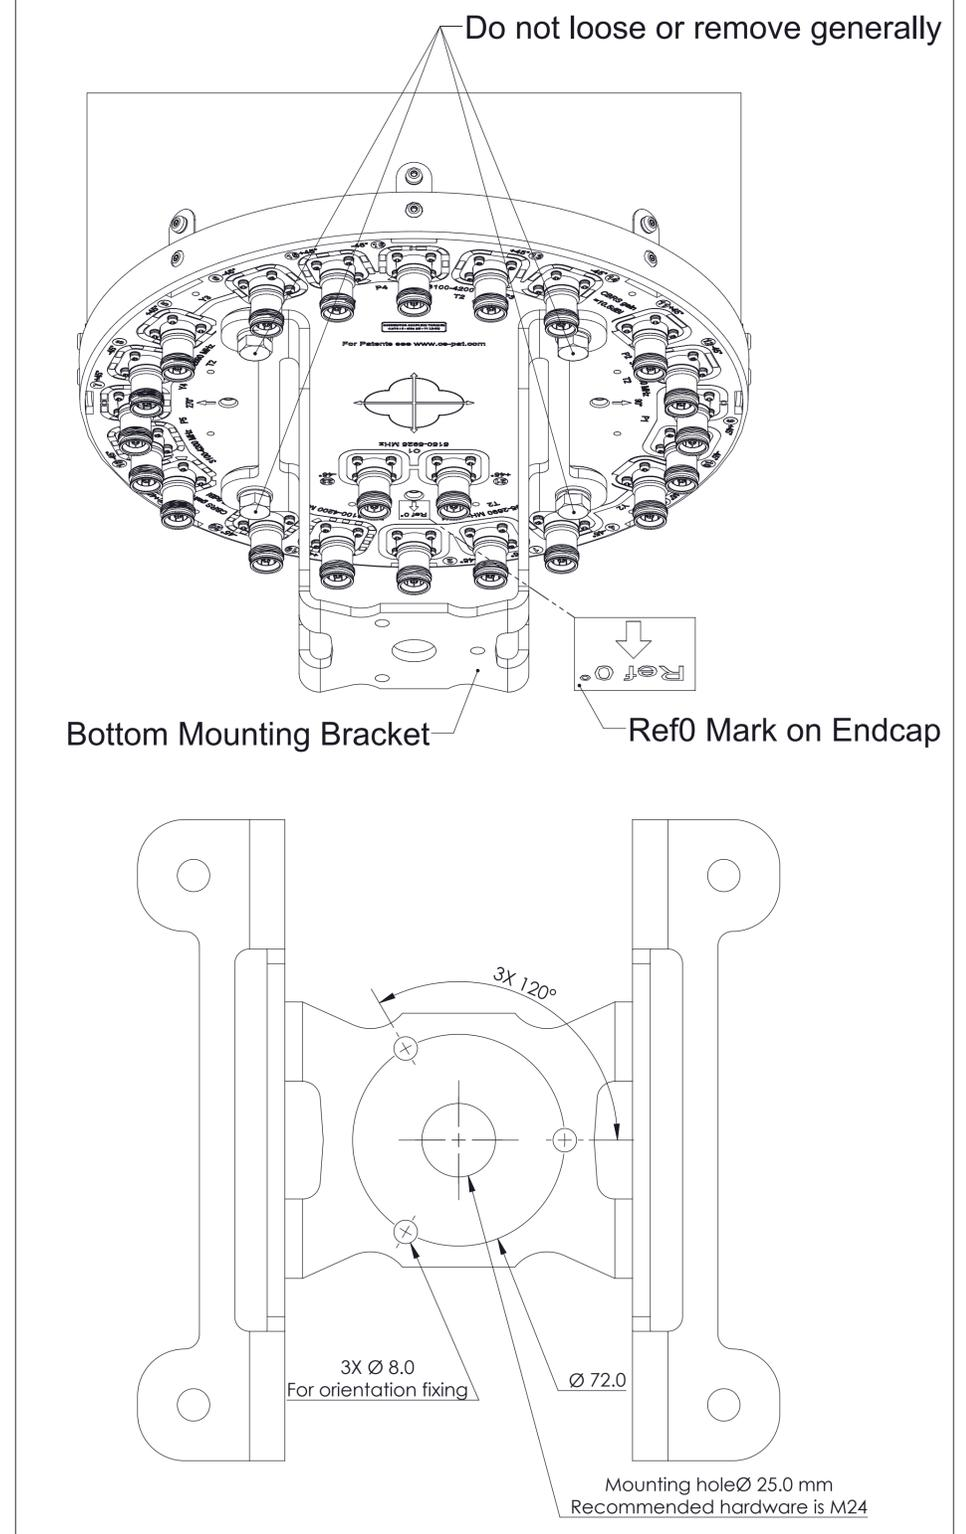

Figure 2. Mounting Interface of Antenna
Before mounting the bottom mounting bracket to the mounting surface, position the antenna unit so that the antenna is oriented as desired. Check Ref0 mark on bottom endcap for orientation reference. Figure 2 details the position of Ref0 mark.
1. Refer to Figures 2, 3 and 4 for mounting and pattern alignment. It is recommended that the mounting holes be marked and made ready in the mounting surface prior to installing the antenna.